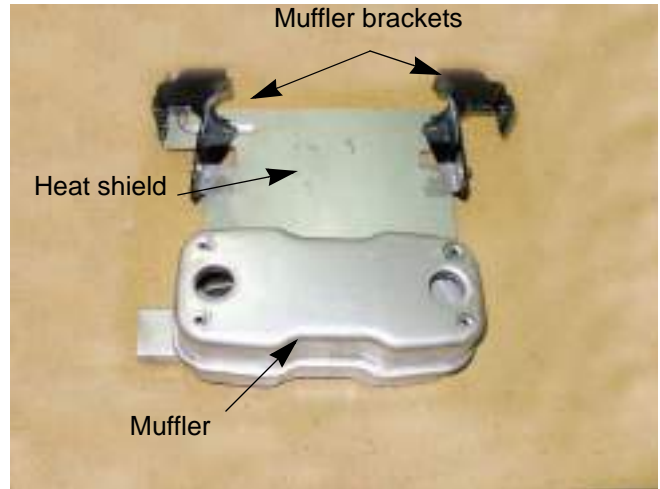

Figure 2.6
7. The muffler, muffler cover and the muffler bracket can now be separated. See Figure 2.6.